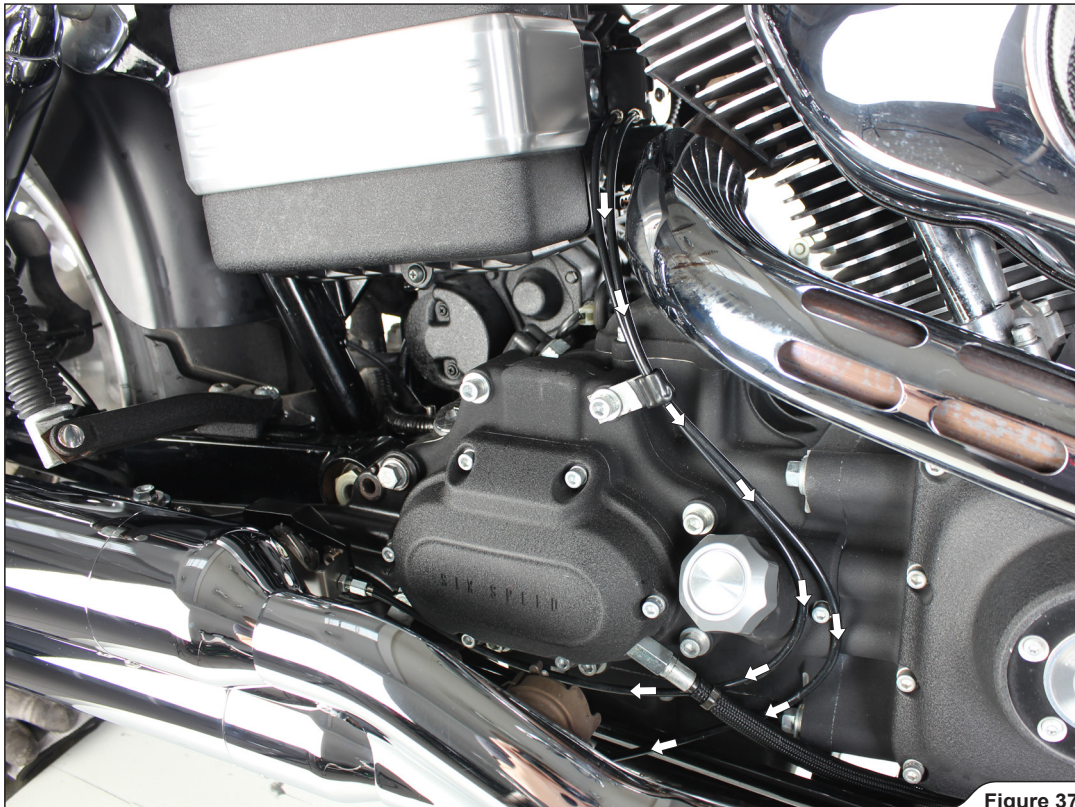

Figure 37
13. Install Akrapovič valve cables onto the bracket, as shown (Figure 37).